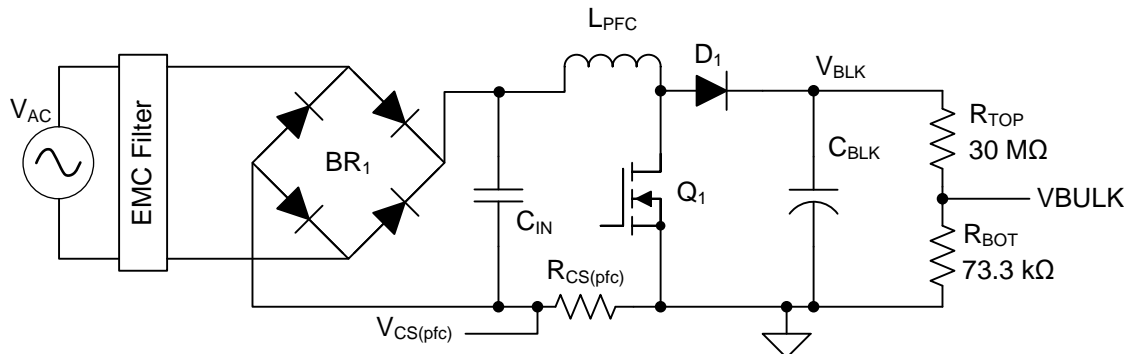

Figure 34. Basic PFC Schematic
The schematic for a basic PFC is shown in Figure 34. The basic schematics for the three boost PFC circuits, Discontinuous Conduction Mode (DCM), Transition Mode (TM) and CCM, are the same. The differences relate to whether or not the inductor current is allowed to go to zero for part of the PWM cycle (DCM) and whether the PFC frequency is held constant or used as a control variable (TM)